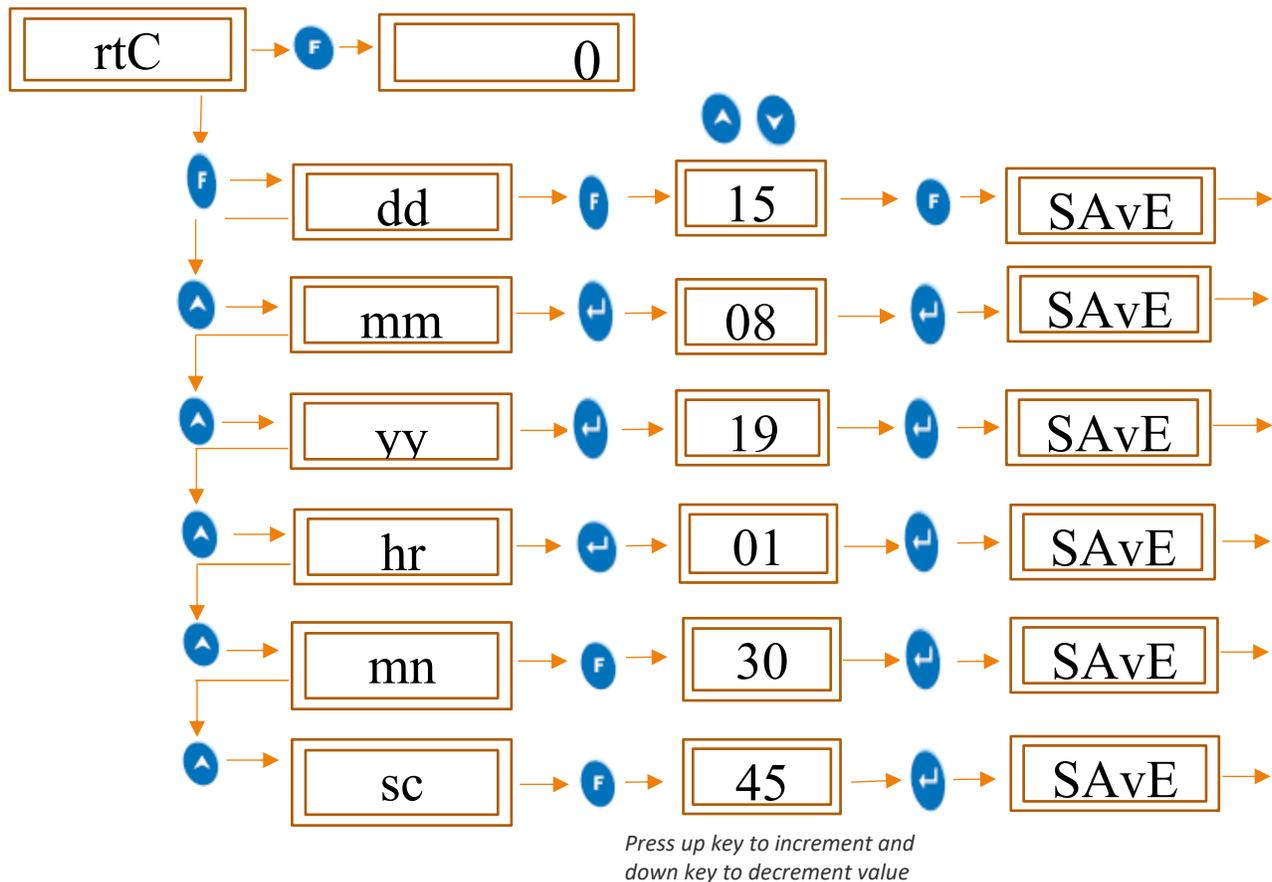

Figure 19 RTC (Real time clock)
- To set the RTC, follow the procedure presented in figure 19.